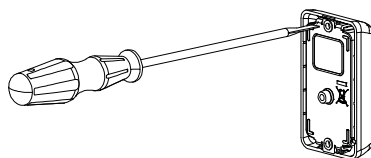

Figure 1
1. Using a screwdriver, remove the cover from the reader (see Figure 1).